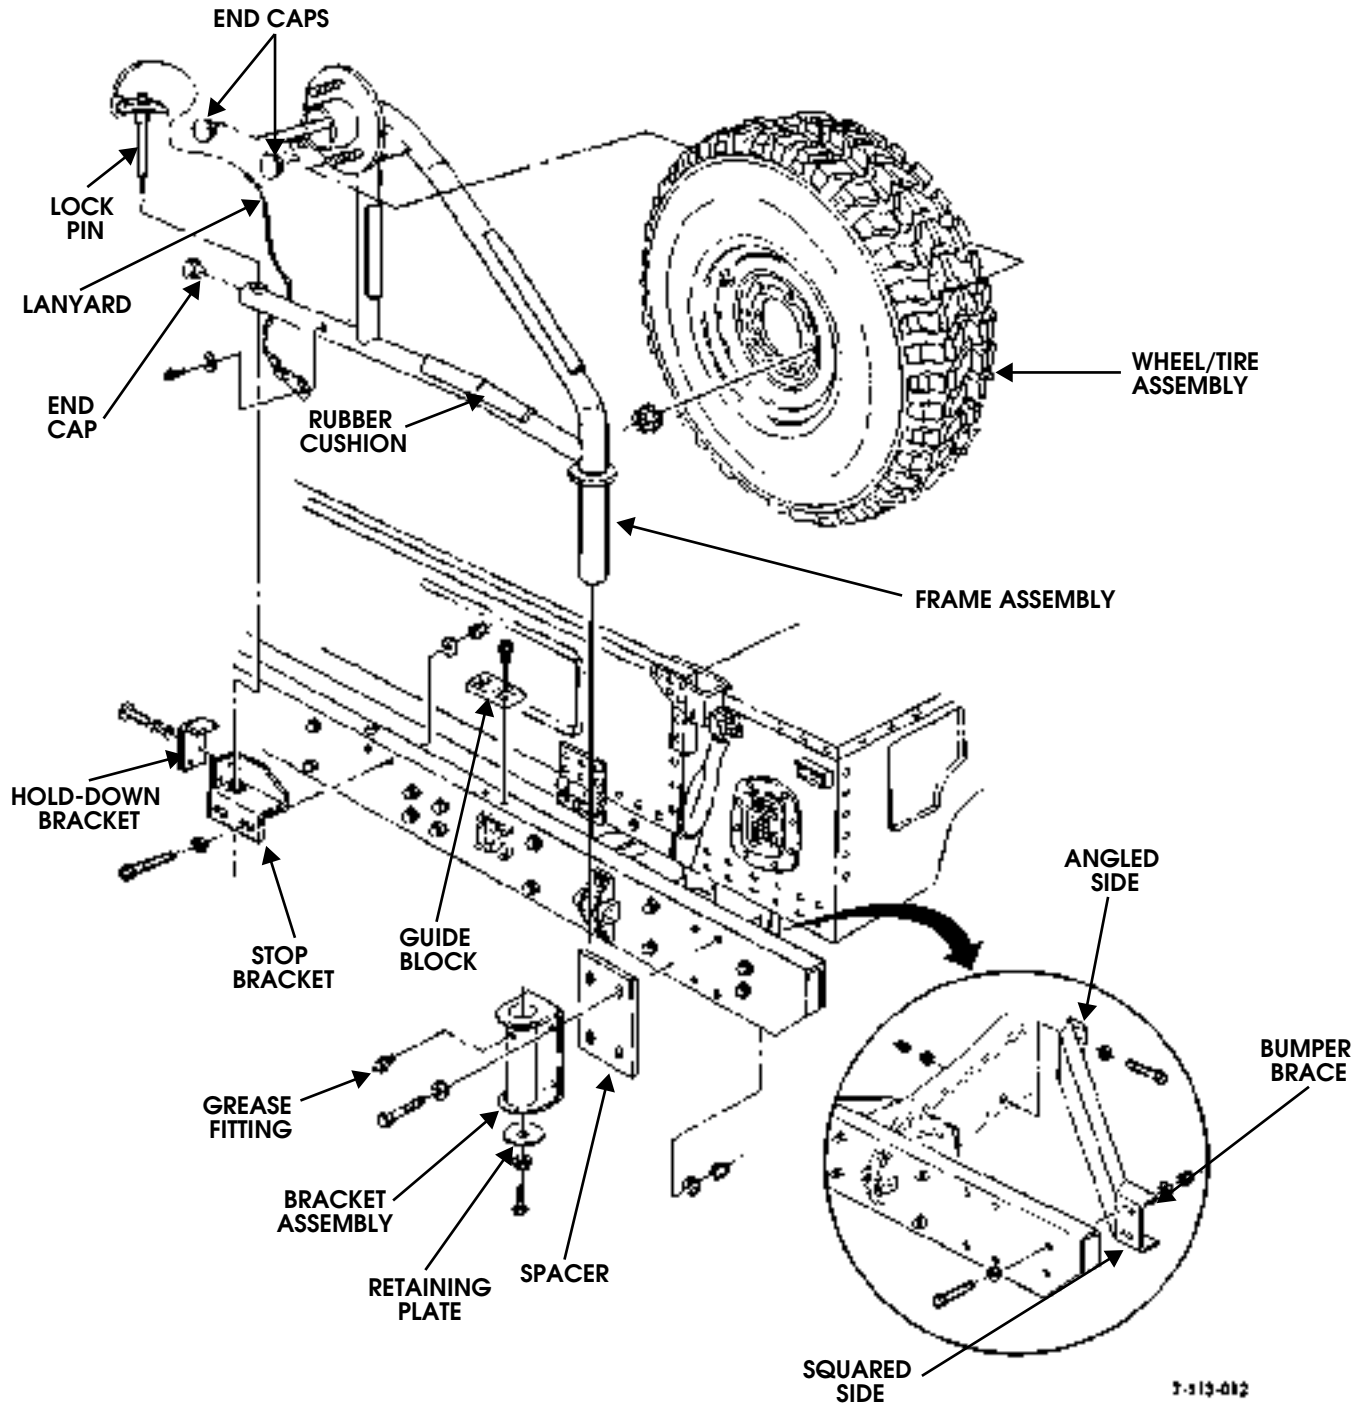

Figure 13-28: Swing-Away Spare Tire Carrier Breakdown
1. Remove lug nuts and wheel/tire assembly from frame assembly (Figure 13-28).
1. Install grease fitting in mounting bracket (Figure 13-28).